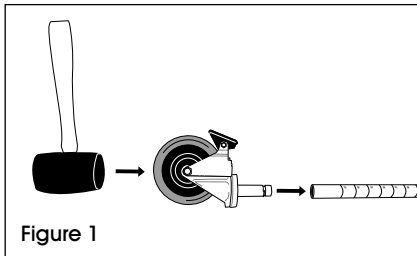

Figure 1
1. Align caster stem and post. (See Figure 1)
2. Engage the wheel brake to keep caster from rolling during assembly. Use a rubber mallet to tap caster stem into post. (See Figure 1)